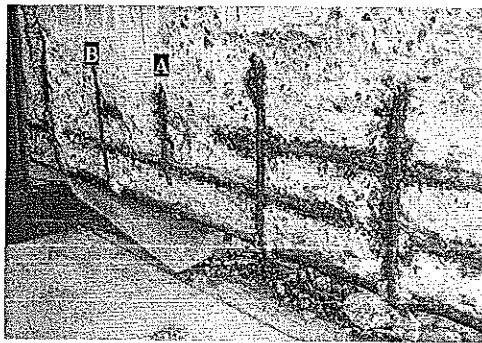

Figure B3
3. Reinforced concrete is an extensively used material in construction projects. The structural components were casted by embedding steel bars in concrete. With time the embeded steel bars start to corrode due to environmental conditions as shown in Figure B3. This corrosion is severe in costal areas.